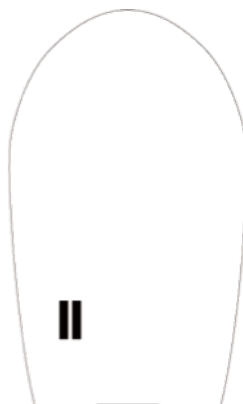

FIGURE 8
1. A beep will be heard and the auto shut-off indicator will be flashing (Figure 8) to indicate the appliance is in auto shut-off mode.